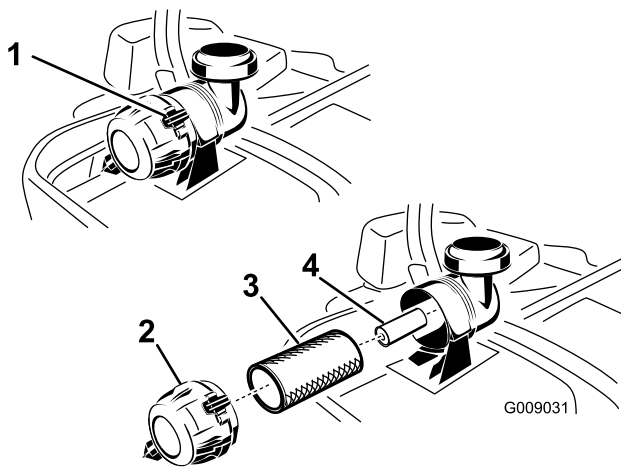

Figure 44
3. Push down to release the retaining clamps on the air cleaner and pull the air cleaner cover off of the air-cleaner body (Figure 44).
5. Gently slide the primary filter out of the air cleaner body (Figure 44). Avoid knocking the filter into the side of the body.
- Do not clean the paper filter, replace it (Figure 44).
- If the secondary filter is being replaced, carefully slide it into the filter body (Figure 44).
- Carefully slide the primary filter over the secondary filter (Figure 44). Ensure that it is fully seated by pushing on the outer rim of the filter while installing it.
- Install the air cleaner cover with the breather cap down and rotate so the retaining clamps lock the cover in place (Figure 44).